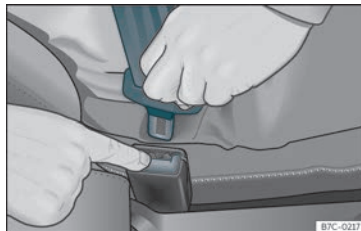

Fig. 10 Release the seat belt's buckle.
- Press the red button on the buckle >>> **Fig. 10.** The latch plate is released from the buckle.